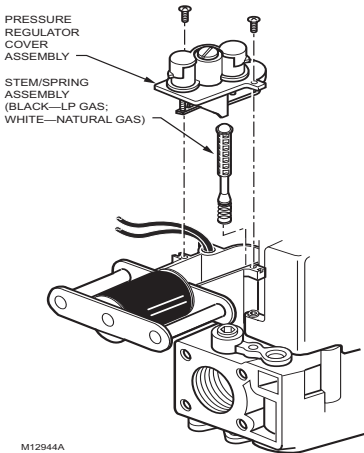

Fig. 5. 396021, 396025 two stage conversion kit installation.
2. Remove the pressure regulator cover assembly. Refer to Fig. 5.